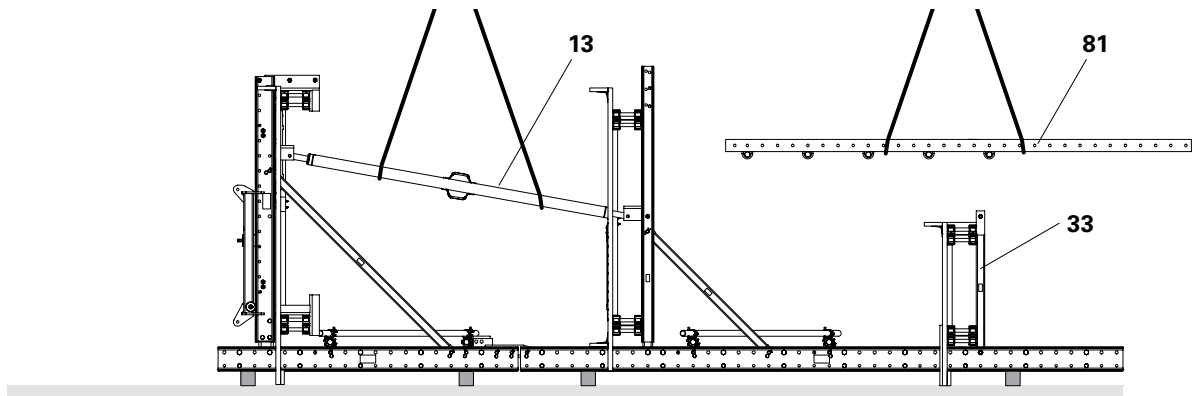

Fig. E2.02
3. Secure Framework Spindle (13) against falling to the ground, remove fitting pins and lift the Framework Spindle to one side. (Fig. E2.02)